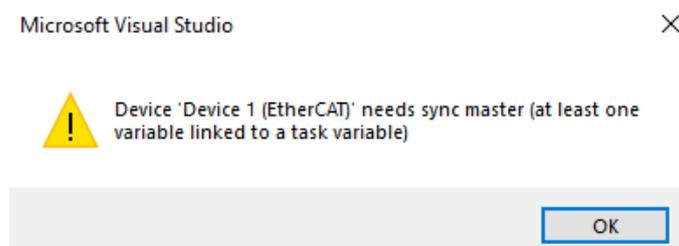
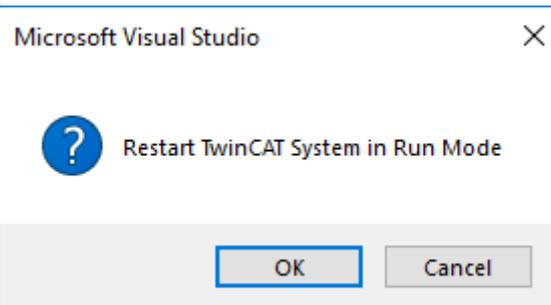

Figure 3.12. A warning that none of the variables have been linked.
Figure 3.13.
- Click on 'Activate configuration' button on upper-right part of Figure 3.12. This will compile the PLC program and settings. PLC program syntax errors will be reported if they do exist. Otherwise, if the PLC program has never been compiled previously, a window in Figure 3.12 will appear, meaning that the variables defined in the program have to be linked to the cyclic servo objects of the VLC-ETC.
- After clicking OK on Figure 3.12, cancel the request to restart TwinCAT in Run Mode as shown in Figure 3.13.